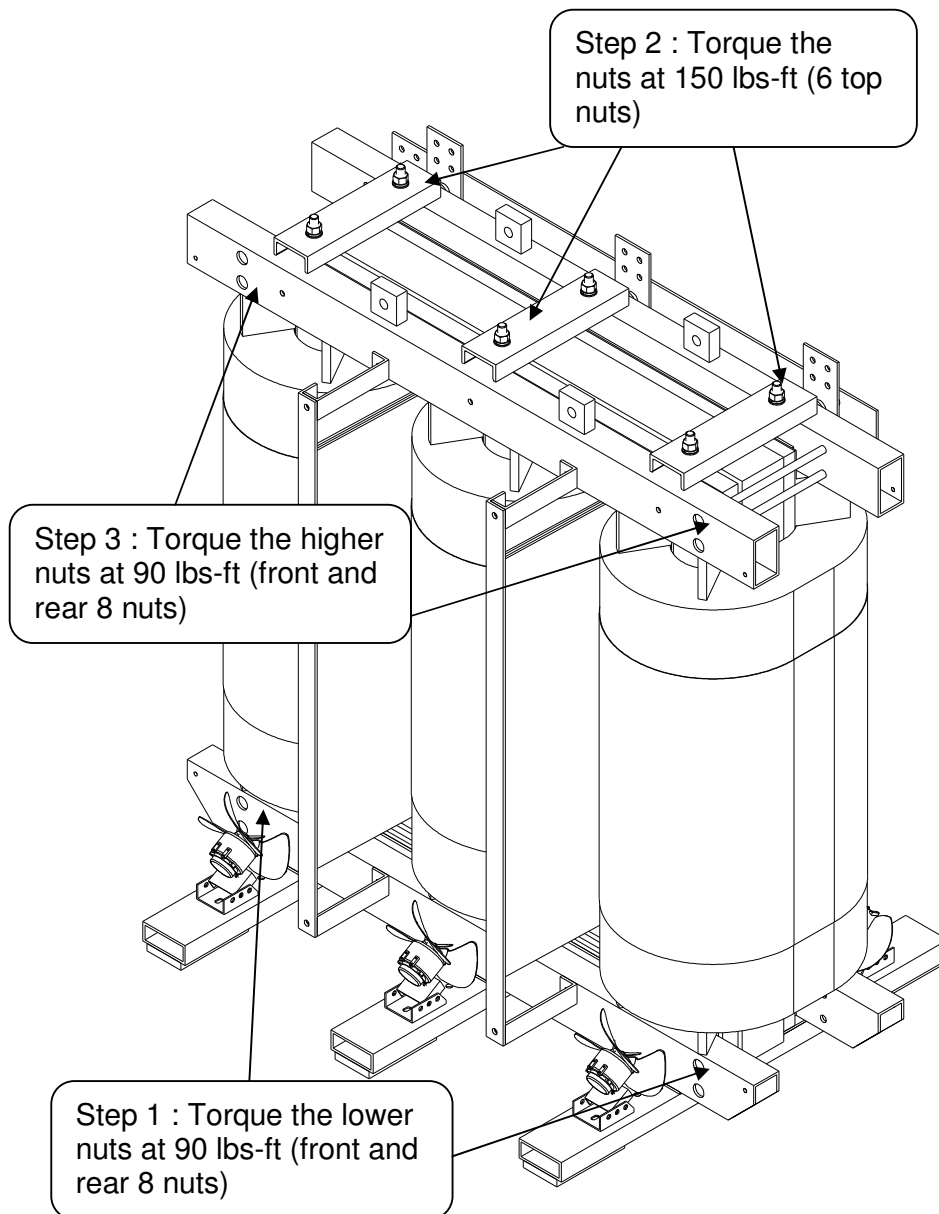
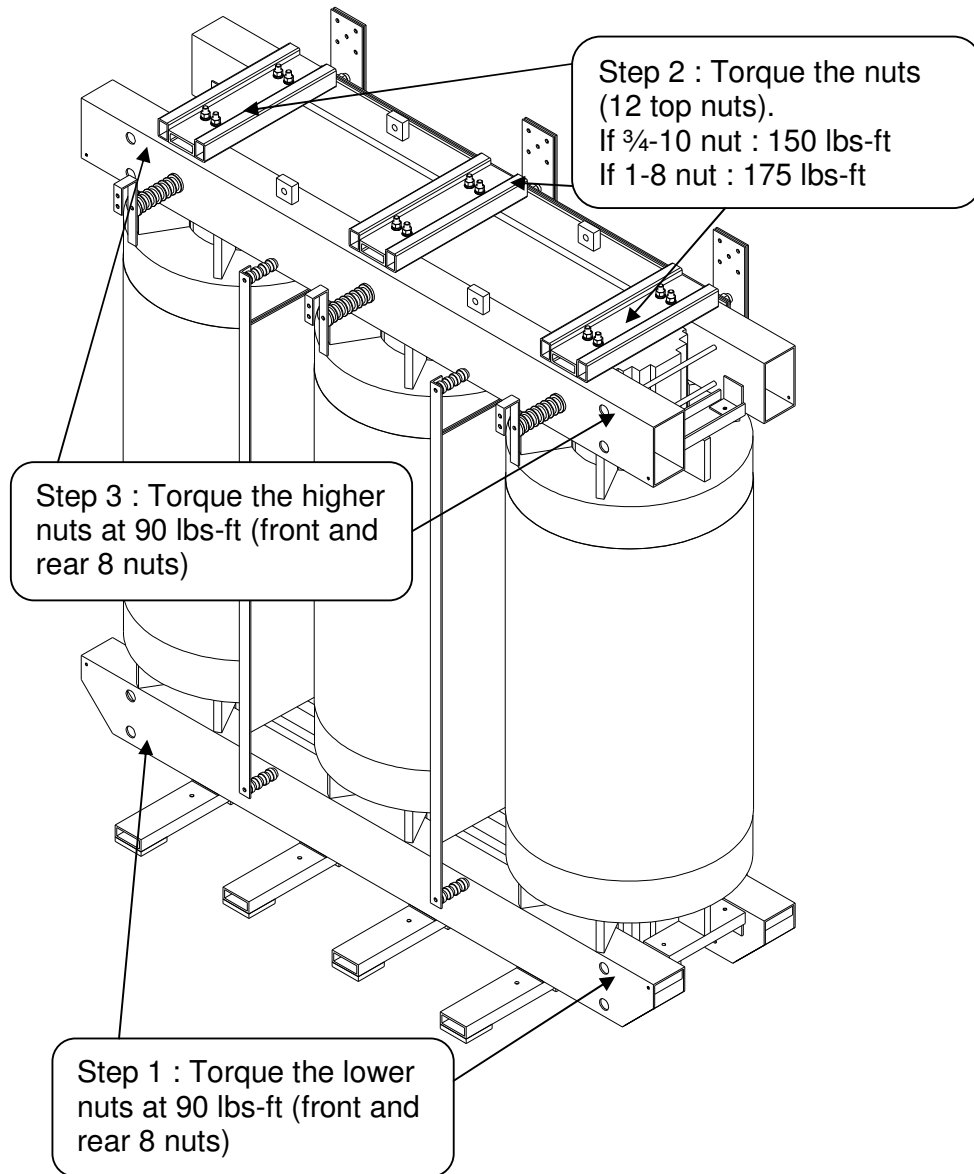

Figure 1
Figure 2
2.2.3. After handling the transformer, we recommend that all bolts and nuts be torqued as per drawings below. For a transformer having 3 mounting feet, refer to figure 1. For a transformer having 4 mounting feet, refer to figure 2. It is common for bolting hardware to become loose during transportation.